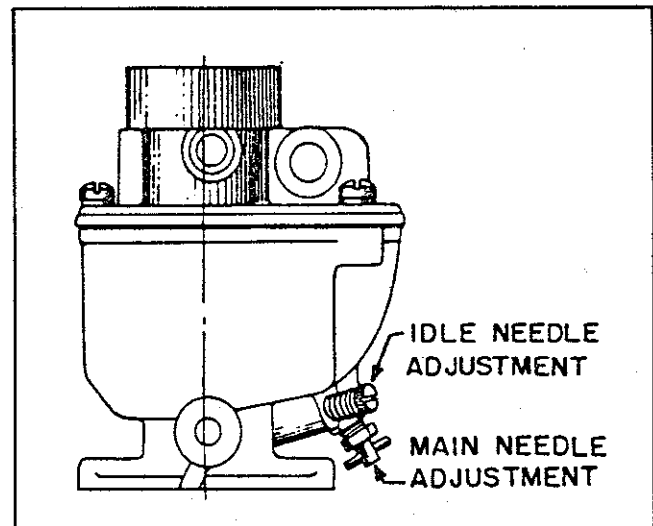

Figure 5-2. Carburetor Adjustment
b. **Carburetor Assembly.** Clean the carburetor assembly (28, figure 8-8) periodically to prevent gummy deposits from accumulating. The main adjusting needle and idle adjusting needle (see figure 5-2) can be removed and the jets cleaned by inserting a thin copper wire. After cleaning the jets, install the adjusting needles and set in accordance with the following note and procedures.
- (1) **Carburetor adjustment:** Start the engine and allow to warm up; adjust main adjusting needle (figure 5-2) at full engine load. Slowly turn main adjusting needle in until engine begins to lose power and speed; then, turn main adjusting needle outward slowly until engine runs smoothly at governed speed.